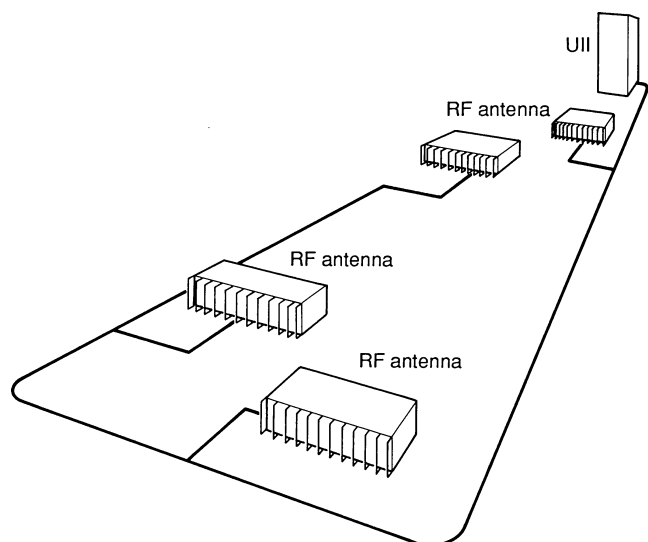

Fig. 10-28 Radio-frequency (RF) identification systems. (Allen-Bradley)
Figure 10-28 shows the Allen-Bradley radio-frequency (RF) system as it is set up for operation. The system keeps track of parts and follows them through the manufacturing process, without the need for a paper chase or factoring in an operator error. Data can be transmitted or received by an RF tag whenever they pass an antenna. Keep in mind that the actual units may have changed in shape as newer configurations are available.